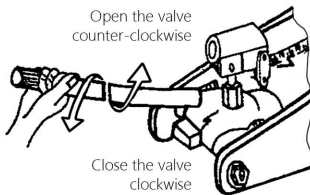

Fig. 1
- Open the control valve, see Fig. 1
- With the point of the jack's grip close the control valve, having screwed it as far as it would go clockwise (Fig. 1).
- Insert the jack's grip into the pump's female. Pumping it, raise the car till it suits you (Fig. 1).
- Slowly rotate the grip counter-clockwise as far as the car starts to descend. (see Fig. 1).